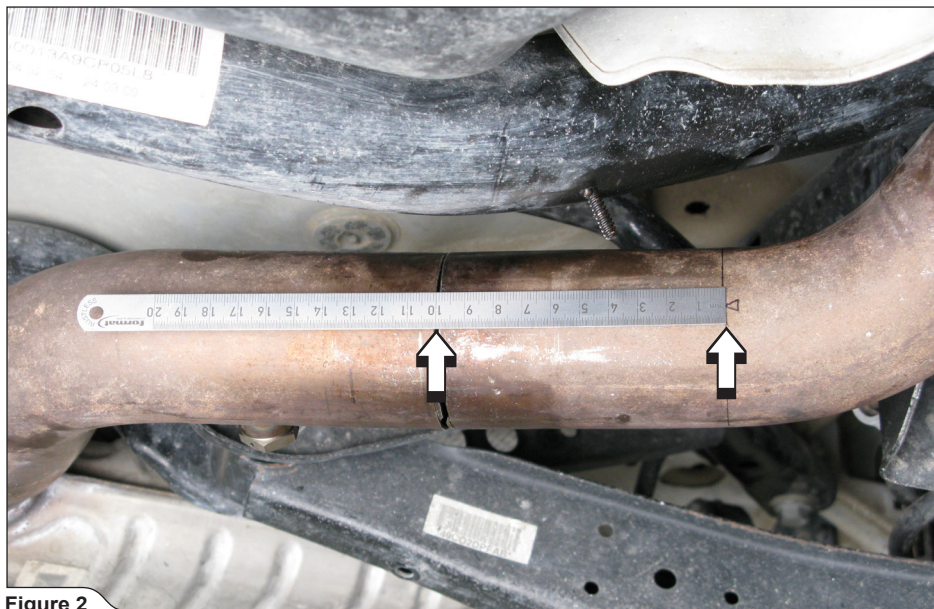

Figure 2
2. **For Slip-On only:** mark stock muffler inlet pipe **100mm** from the end of the inner radius of the second bend from the muffler as shown in figure. Cut the pipe with angle grinder or equivalent (**Figure 2**).